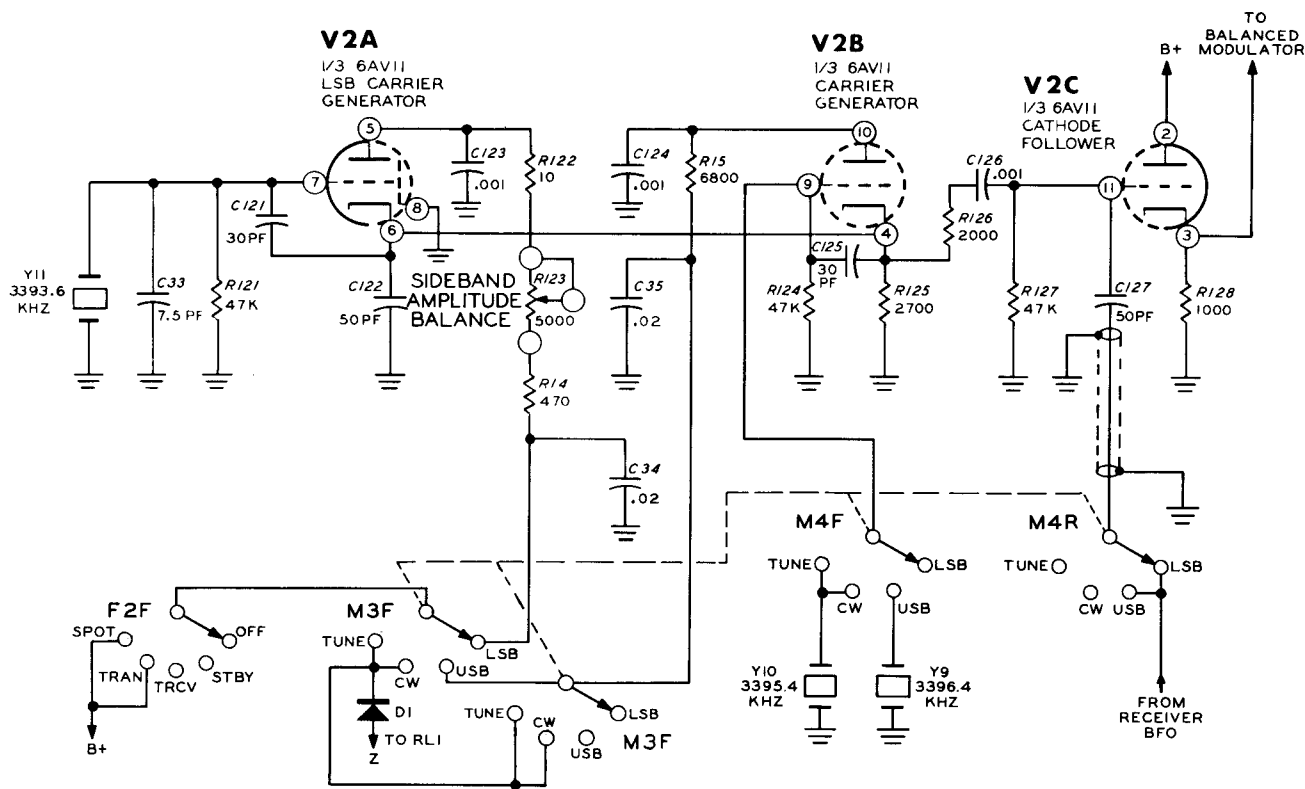

Figure 6-5
**LSB-USB-CW CARRIER GENERATOR AND CATHODE FOLLOWER (Figure 6-5)**